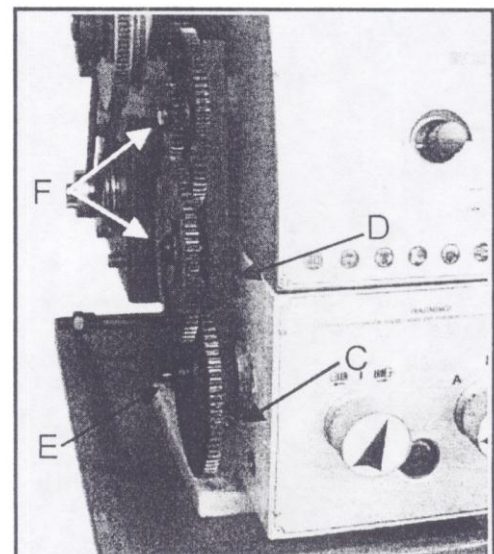

Fig. 9
12. Loosen the locking screw (C, Fig.9) on the quadrant.
13. Swing the quadrant (D, Fig.9) to the right.
14. Unscrew the bolt (E, Fig.9) from the leadscrew or the square bolts (F, Fig.9) from the quadrant bolts in order to remove the change gears from the front.